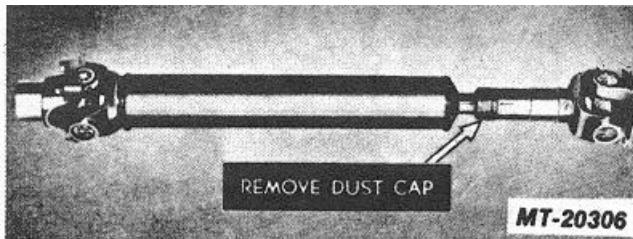

Fig. 17
1. Slip Joint (All Types). Unscrew the dust cap from the sleeve yoke and slide the joint off the driveshaft (Fig. 17).